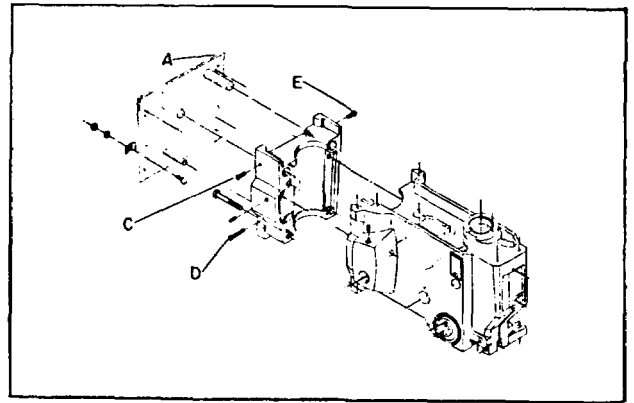

Figure 13. Installing Motor and Belt
3. Mount the motor to the motor plate, (A) Fig. 13, using the four  $\frac{5}{16}$ " - 18 x 1" carriage bolts, the speed nuts, the plain washers and the four  $\frac{5}{16}$ " - 18 hex nuts. Tighten the hex nuts only finger tight.
4. Loosen the two screws (C and D) Fig. 13, and also loosen the screw (E) on the right hand side of the head. Set the motor plate  $\frac{7}{8}$ " from the back of the drill press head casting and tighten the three screws.
10. Then place the level in front to back position first on the spindle pulley and then on the motor pulley. (Make a mental note of the position of the bubble.) If the motor pulley has to be tilted to the front or rear, loosen the three screws (C, D, E) Fig. 13, and using a crowbar pry out the top or bottom of the motor plate until the motor shaft is in parallel alignment with the drill press spindle. Then tighten the three screws (C, D, E) Fig. 13.